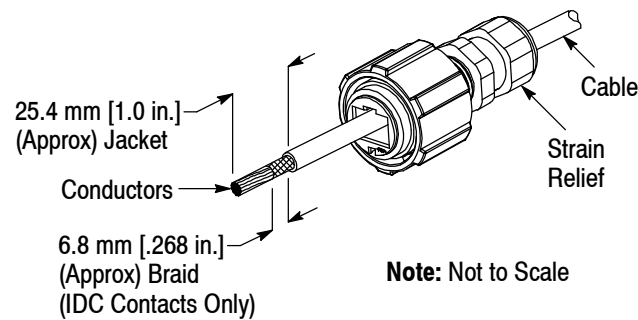

Figure 2
1. Install the plug assembly (strain relief end first) onto the cable. Then, using Industrial Ethernet Strip Tool 1981944-1, strip the cable jacket to the dimension given in Figure 2.
For IDC contacts only, strip the cable braid to the dimension given in Figure 2.